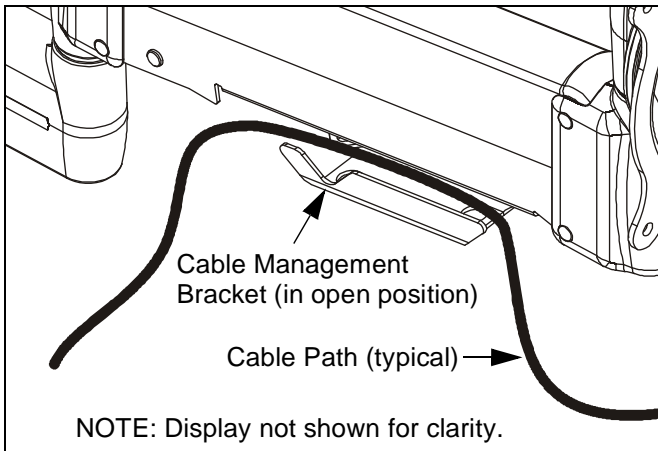

Figure 7: Height Adjustable Arm - Cable Path
- Carefully insert cables into bracket (see figure 7).